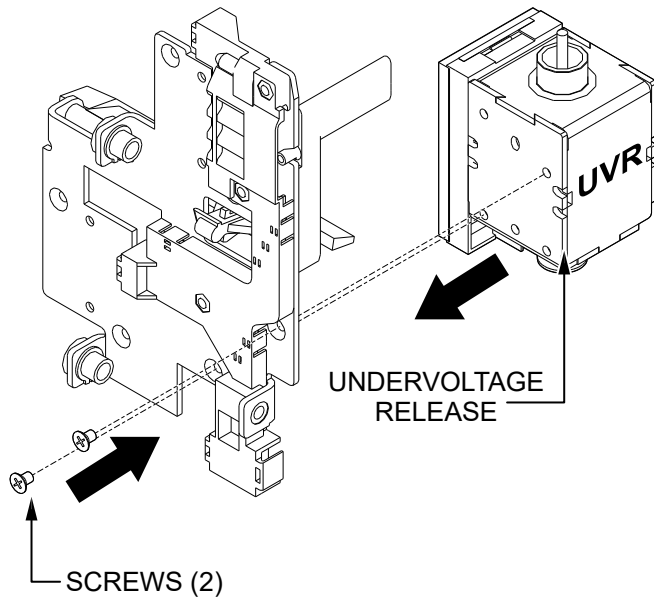

Figure 17. Install Undervoltage Release
11. Secure the **undervoltage release** to the accessory bracket using the **two provided screws** as shown in Figure 17. Tighten screws securely (0.81 lbf·ft/1.1 N·m).